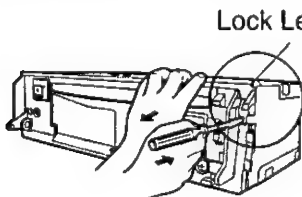

Fig. 1
- Remove Trim Plate ⑩ with a screwdriver as shown in the figure.
- Pull out the unit while pushing the two lock levers using the screwdriver. (⇒ Fig. 1, 2)